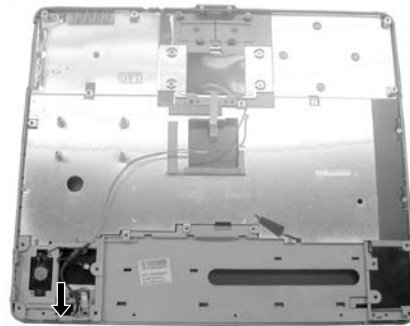

Figure 2-23 Separate the LCD ASSY
11. Free the wireless card's antennae wires. Separate the LCD ASSY away. (Figure 2-23)